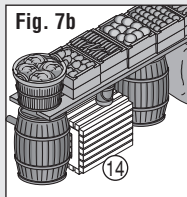

Fig. 7b
- Glue Wood Crate (14) to Pail (13) (Fig. 7b).